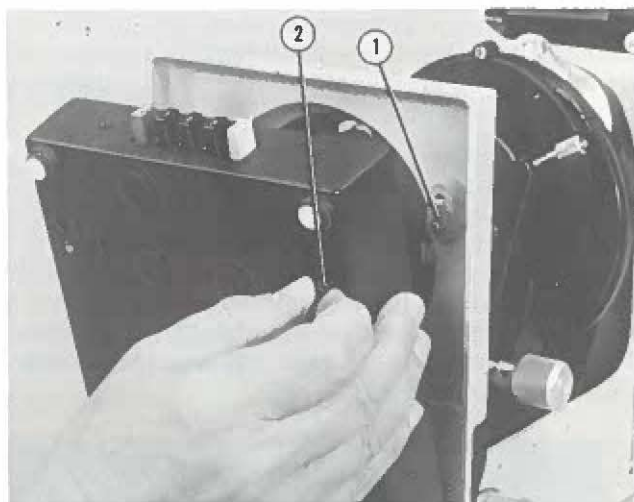

FIGURE 6-2 REMOVING ILLUMINATOR BASE
6.1.1 Disassemble the illuminator or bottom cover from your BALPLAN microscope by removing the three screws (Figure 6-2).
6.1.3 Insert the two dowels in the bottom of the microscope base (Figure 6-2) into the two holes in the research base illuminator.
6.1.4 Insert the three mounting screws (Figure 6-2) and tighten them securely using the 9/64-inch hexagonal wrench supplied.